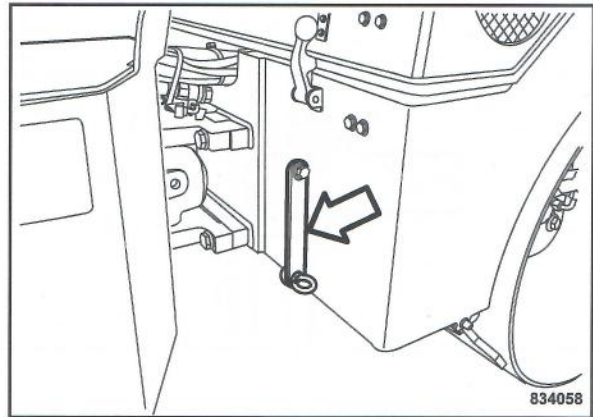

Fig. 52
- After transport release the articulation lock (Fig. 52) again and swing it back into the holding bracket.